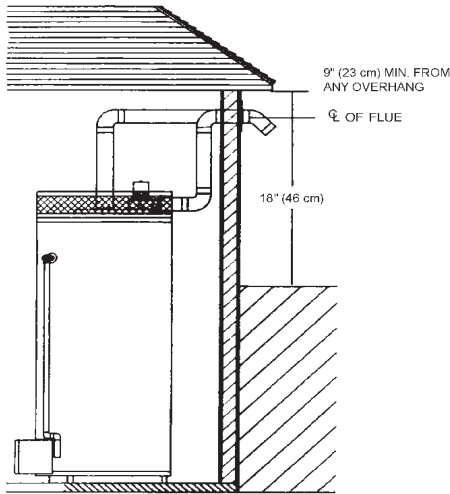

FIGURE 7
- 18" (46 cm) minimum from the ground and 9" from ceiling overhangs. See Figure 7.